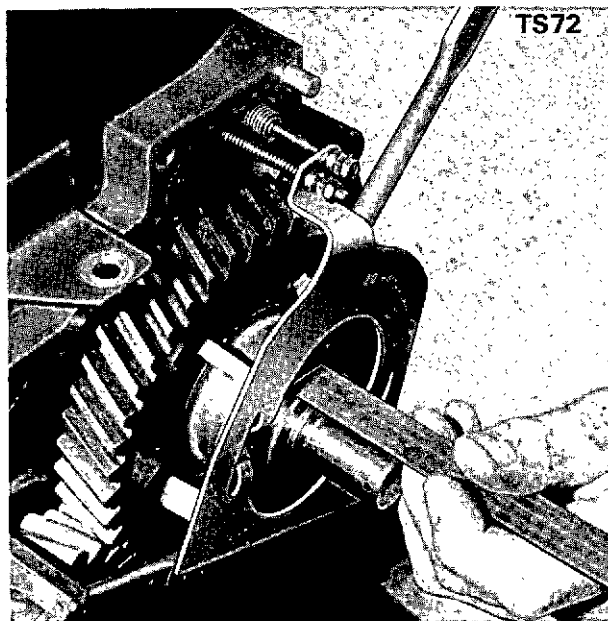

Fig. 38 Setting 'A' Adjustment.
Set the distance 'A' (Fig. 38) between the end of the thrust sleeve and the shoulder on the camshaft gear hub to 5.0mm (0.197'') by marking a scribed line 5.0mm from the shoulder and then moving the thrust sleeve forward to line up with the scribed mark. Check that the calibration mark 'B' on No. 1 fuel pump is in line with the mark on the centre of the fuel pump body whilst distance 'A' is maintained. Adjust by altering the effective length of the governor link through the locknuts 'C'. Ensure chamfered spacer is seated when making this adjustment. The length of the link between the fuel pumps is then adjusted so that the calibration marks (B) on all pumps are in line simultaneously.\* To adjust the length of each link it has to be disconnected from its pump and rotated to suit.